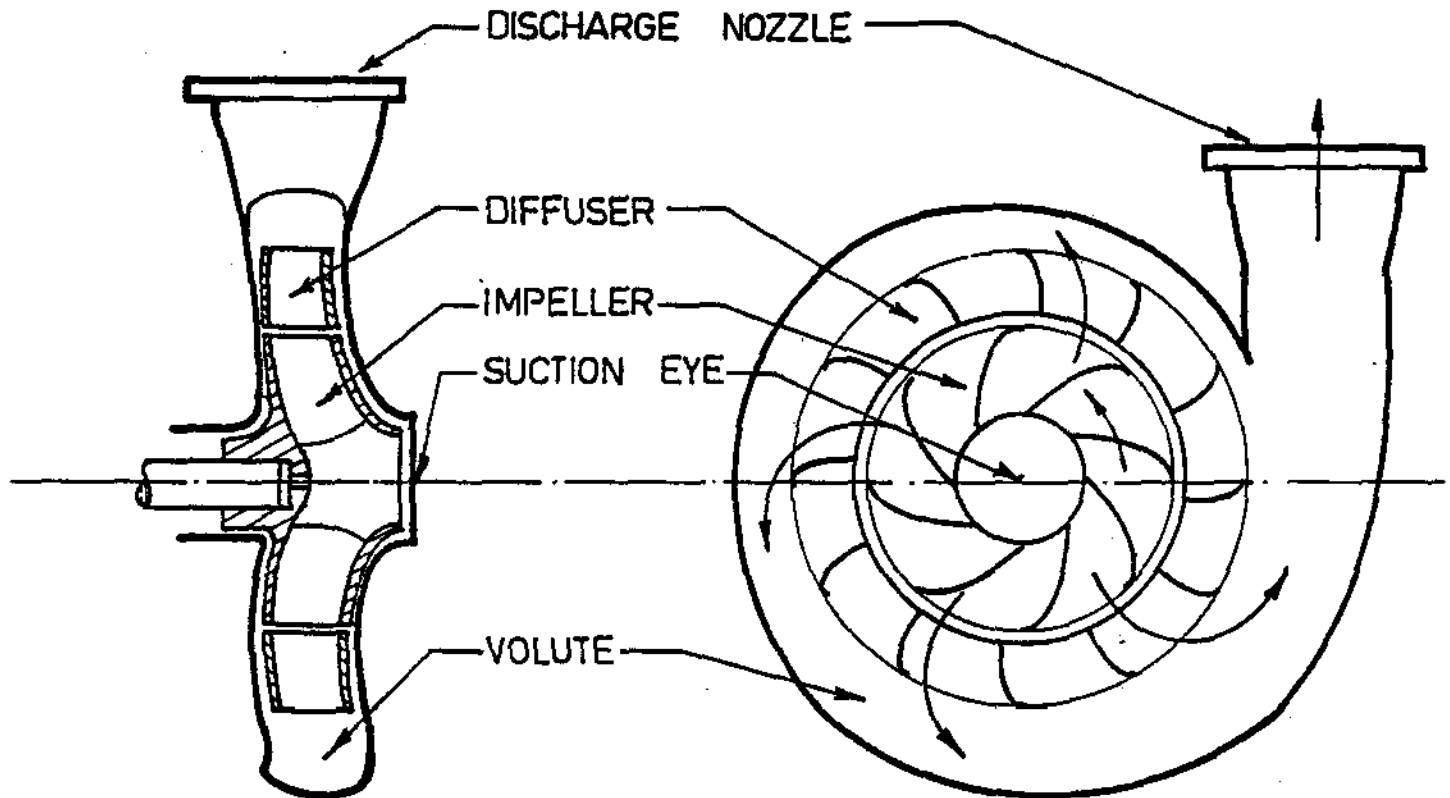

Figure 10
- (b) in a diffuser, a stationary piece, adjacent to the impeller exit, which has multiple passages of increasing cross sectional area for converting velocity to pressure. Figure 10 shows the arrangement of a diffuser for a horizontal pump. Often this type is called a diffuser vane ring.